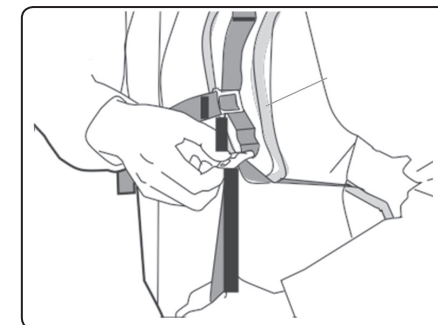

Fig. 5
1. Insert your arms into the shoulder carry straps to support the backpack battery on your back and temporarily set both shoulder straps to comfortable positions so that your shoulders are in a comfortable position (fig. 5).